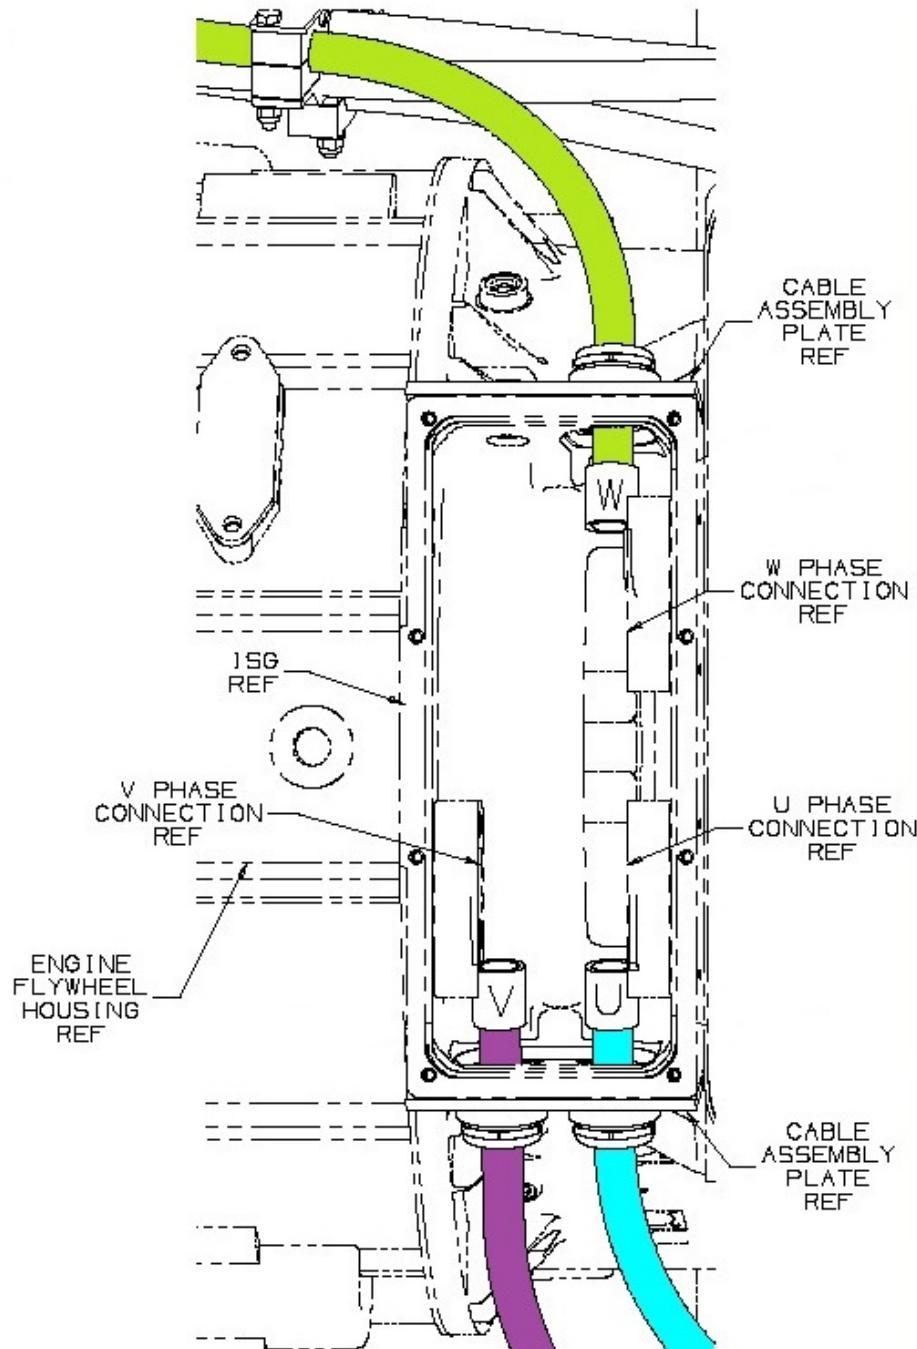

Figure 2: Integrated Starter Generator (ISG) Terminal Connections
- d. Install the phase cable assembly plates into the ISG. Align the three phase connections with their appropriate terminals inside the ISG. Loosely mount the phase cable(s) to the terminal block using the M10 X 1.5 X 25MM bolts, lock washers and flat washers. Refer to Figure 2.